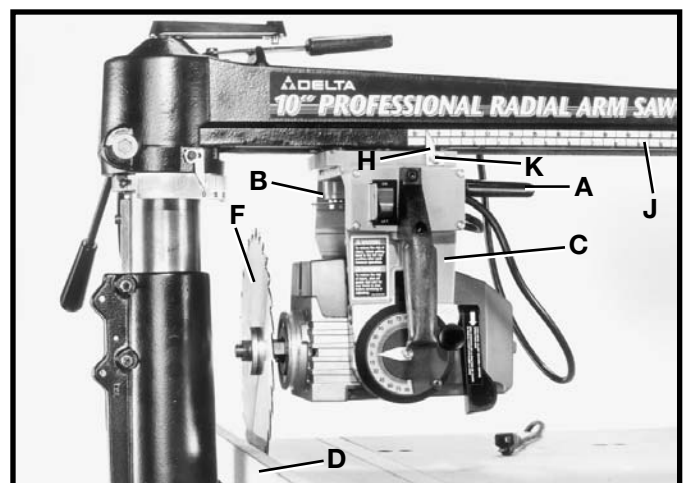
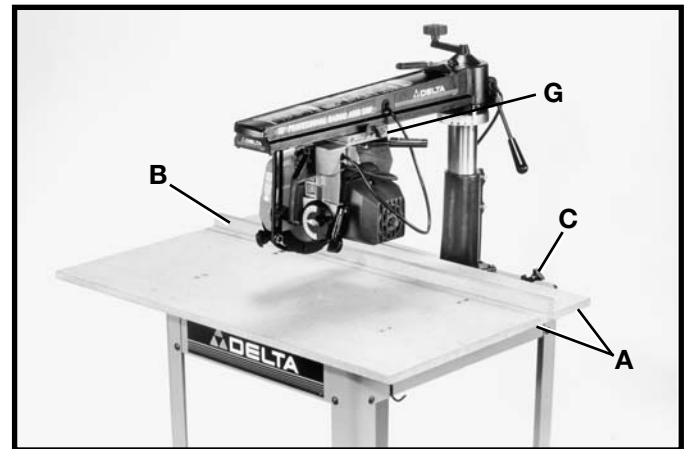
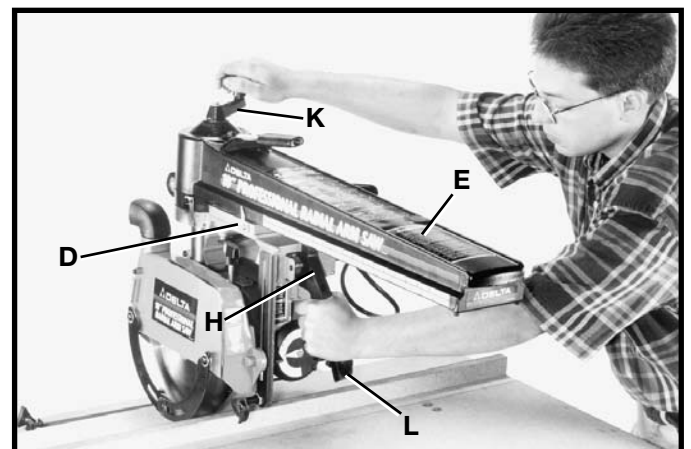
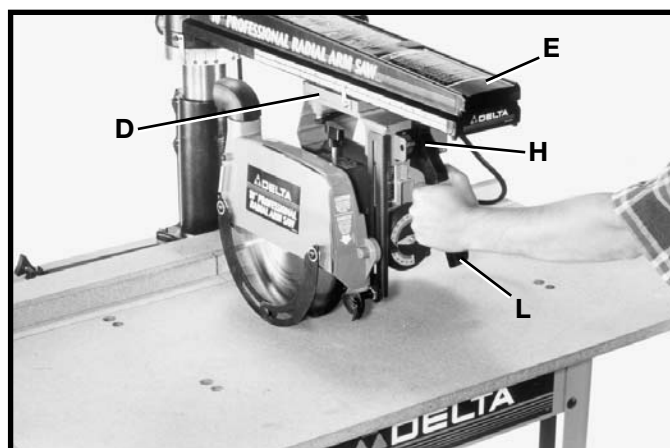

Fig. 43
Fig. 48
Fig. 49
Fig. 50
2. Loosen yoke clamp handle (A) Fig. 43. Release yoke index by pressing yoke indexing release lever (B) up or down, and rotating cutting-head (C) to the in-rip position as shown. Tighten yoke clamp lever (A).
3. Position fence (D) Fig. 43, at the rear of table as shown.
4. Loosen cutting-head clamp knob (G) Fig. 48 and slide cutting-head (C) Fig. 43, to rear of track arm until saw blade (F) is flush against fence (D).
5. Tighten cutting-head clamp knob (G) Fig. 48 and adjust pointer (H) Fig. 43, if necessary, to "zero" mark on lower scale (J) by loosening screw (K). After adjustment is made, tighten screw (K).
1. Assemble table boards (A) Fig. 48, and fence (B) as shown and secure in place with table clamps, one of which is shown at (C).
2. Return cutting-head (D) Fig. 49, to rear of track arm (E), and tighten cutting-head clamp knob (G) Fig. 48. Make sure switch (H) Fig. 49, is in the "OFF" position and connect saw to power source.
3. While holding cutting-head handle (L) Fig. 49 firmly, turn switch (H) "ON" and lower track arm (E) by turning elevating handle (K) as shown. Lower saw blade until it cuts into the table surface approximately 1/16" deep. Then stop turning elevating handle (K).
4. While still holding cutting-head handle (L) Fig. 50 firmly, loosen cutting-head clamp knob (G) Fig. 48, and slowly pull cutting-head (D) Fig. 50, toward the front of the track arm (E) as shown, until travel stops. Then turn switch (H) "OFF".